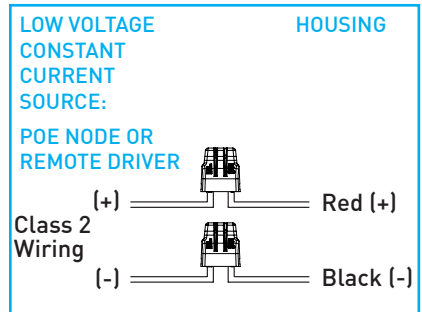

Fig.20
Feed structured building wires through knockout, secure to corresponding connector "Fig.20" and tighten strain relief.
**Quick connectors** provided for low voltage connection: Red (+) and Black (-) "Fig.20".